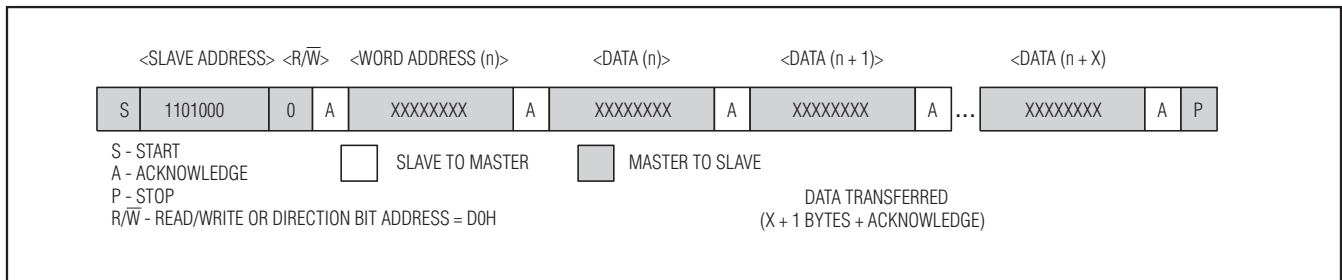

Figure 3. Data Write—RTC Slave Receiver Mode
**1) Slave receiver mode (DS32x35 write mode):** Serial data and clock are received through SDA and SCL. After each byte is received an acknowledge bit is transmitted. START and STOP conditions are recognized as the beginning and end of a serial transfer. Address recognition is performed by hardware after reception of the slave address and direction bit (see Figures 3, 5, and 7). The slave address byte is the first byte received after the master generates the START condition. The slave address byte contains one of the 7-bit DS32x35 addresses. The slave address is 1101000 for the RTC. For the DS32B35 FRAM, the first four bits are 1010, and the next three bits select one of eight blocks of data (see Table 2). For the DS32C35 FRAM, the first seven bits are 1010000. Each slave address is followed by the direction bit (R/W), which is zero for a write. After receiving and decoding the slave address byte, the device outputs an acknowledge on the SDA line. After the device acknowledges the slave address and write bit, the master transmits a register address to the device. For the DS32C35, the master transmits two bytes for the register address information. This sets the register pointer on the device. After setting the register address, the master then transmits zero or more bytes of data with the DS32x35 acknowledging each byte received. The master generates a STOP condition to terminate the data write.